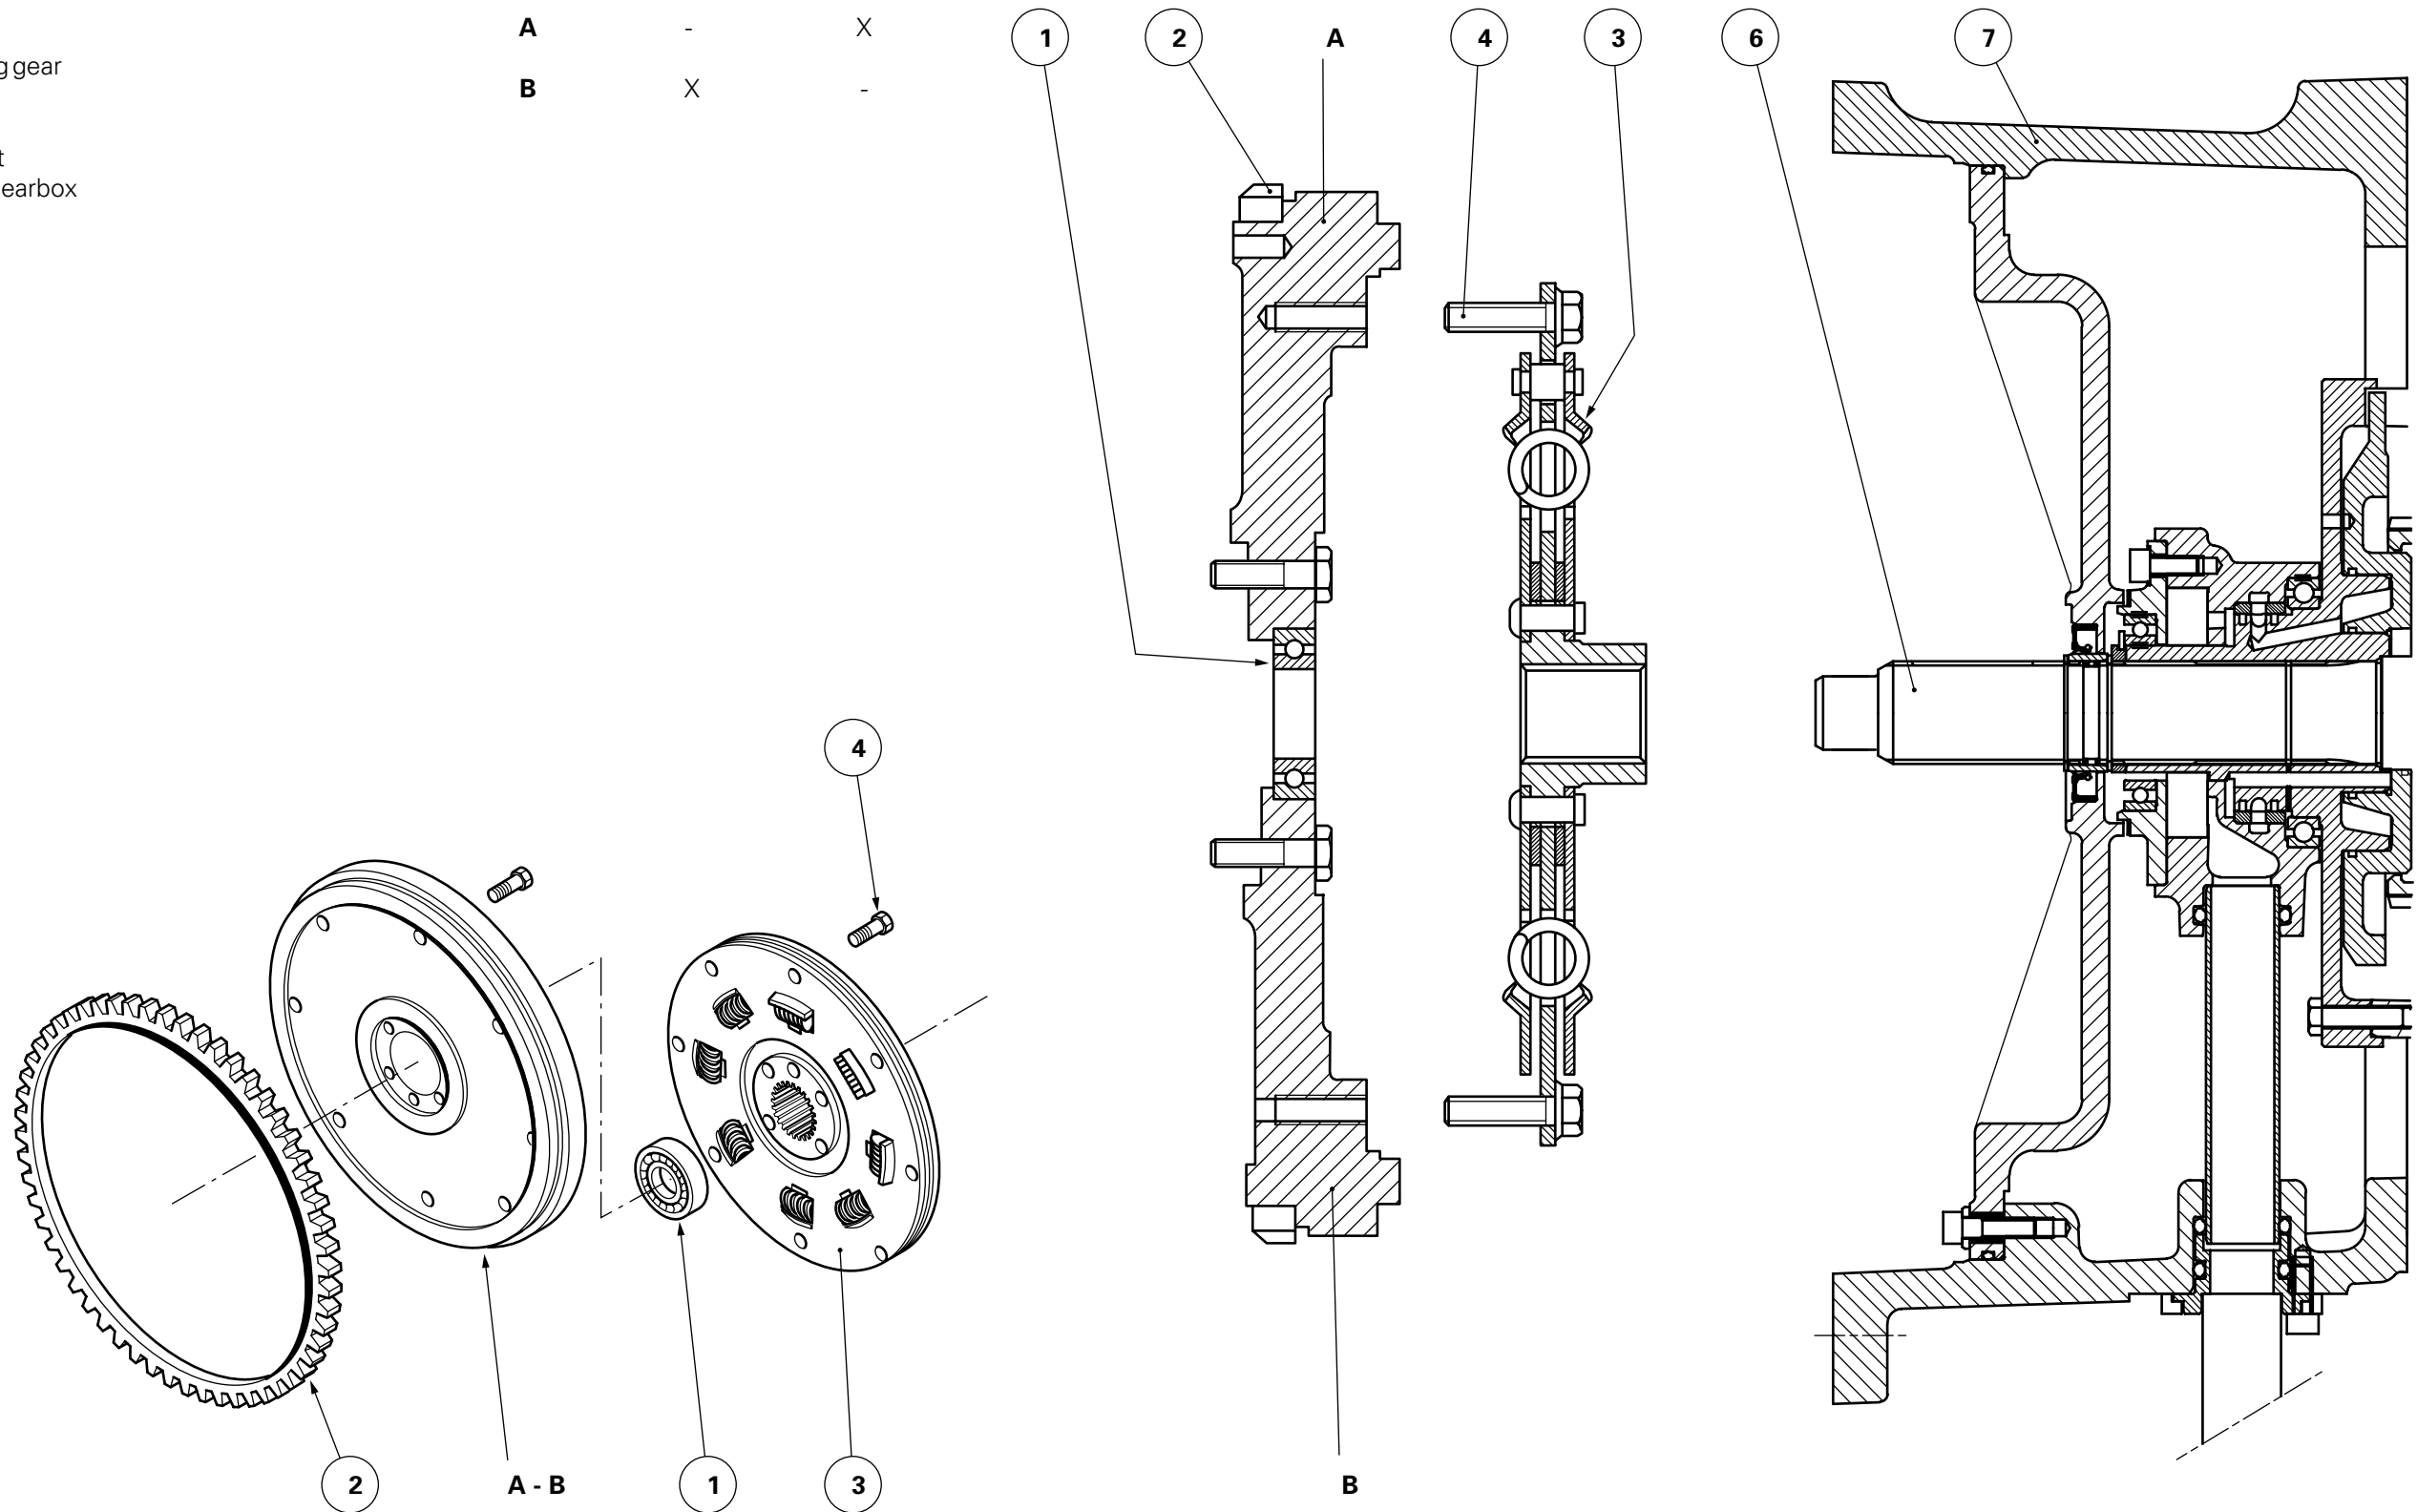

Fig. 2
Heavy Duty version (Fig. 2)
8. Remove tubes (20) (65) (70) and union (66) (Figs. 2 - 3).
- Note: Studs (9) are smeared with Loctite 270 and locked into the gearbox.**
- screws (1) and nuts (2): 150 - 200 Nm,
- screws (4) (5) (7) and nuts (8): 100 - 130 Nm.
17. Coat union (66) with Loctite 542 then screw onto the spacer (Fig. 2).